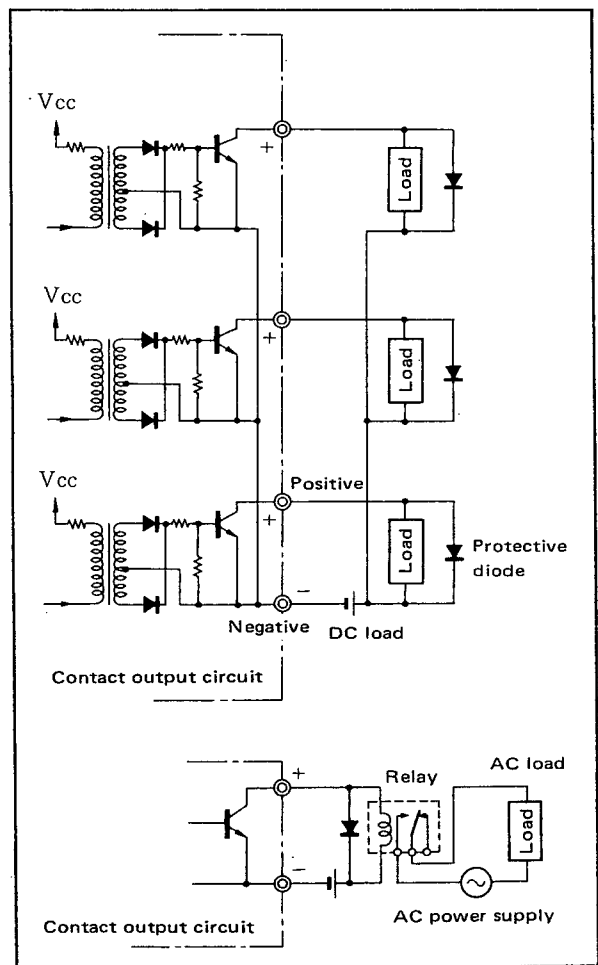

Figure 3-1-3. Connection of Contact Outputs.
- (1) Be sure to terminate all cable connections using solderless crimp-on lugs.
- (2) Each status and voltage input must be as per SLCC*E specifications. Note the limits on conductor resistance, voltage drop in conductors, and voltage (high/low) levels.
- (3) The fail and digital outputs are transistor contact signals (isolated from power supply and other internal circuitry). When connecting external devices, pay attention to the following: (See Figure 3-1-3.)
- When connecting a relay or other such inductive device, connect a surge absorber (protective diode — Figure 3-1-3, CR circuit, etc.) in parallel with the load.
- (4) Use shielded twisted-pair SCCD cable for communication lines (terminals 17, 18).